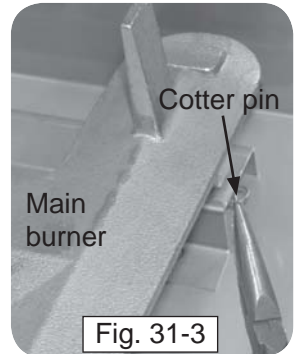

Fig. 31-3
3. Remove the cotter pin from the left or right rear burner anchoring peg by pulling it straight out of the cotter pin hole using fingers or needle-nose pliers (Fig. 31-3).